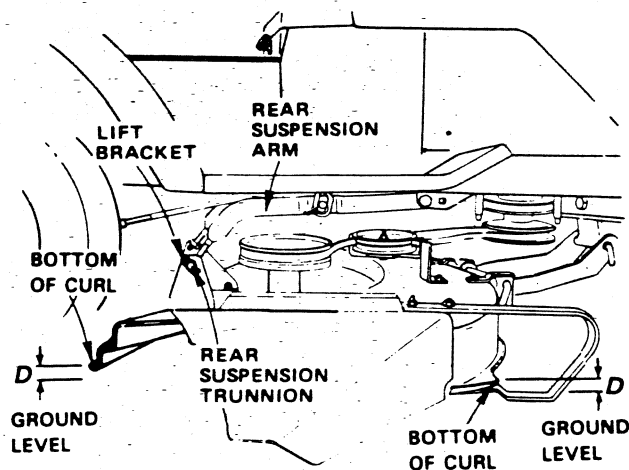

FIGURE 34
1. To obtain the best cutting results, your Mower Housing should be adjusted so the Front and Rear Flange distance "D" (Fig. 34) is 1/2" lower in front when the mower is positioned in the highest cutting position.